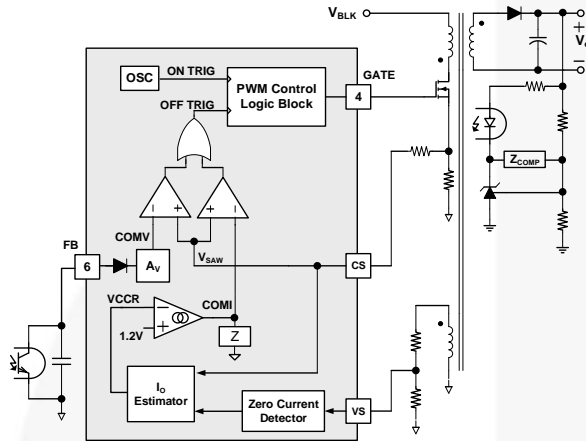

Figure 36. Simplified PWM Control Circuit
Figure 36 shows a simplified CV / CC PWM control circuit of the FAN602F. The Constant Voltage (CV) regulation is implemented in the same manner as the conventional isolated power supply, where the output voltage is sensed using a voltage divider and compared with the internal reference of the shunt regulator to generate a compensation signal. The compensation signal is transferred to the primary side through an opto-coupler and scaled down by attenuator  $A_V$  to generate a COMV signal. This COMV signal is applied to the PWM comparator to determine the duty cycle.